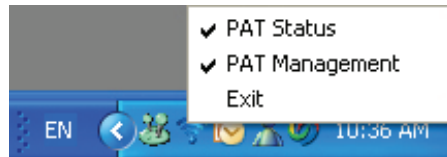

Figure 11. Wireless Monitor Menu Items
2. Click on the Wireless Monitor icon located in the Windows System Tray and select PAT Management (Figure 11).